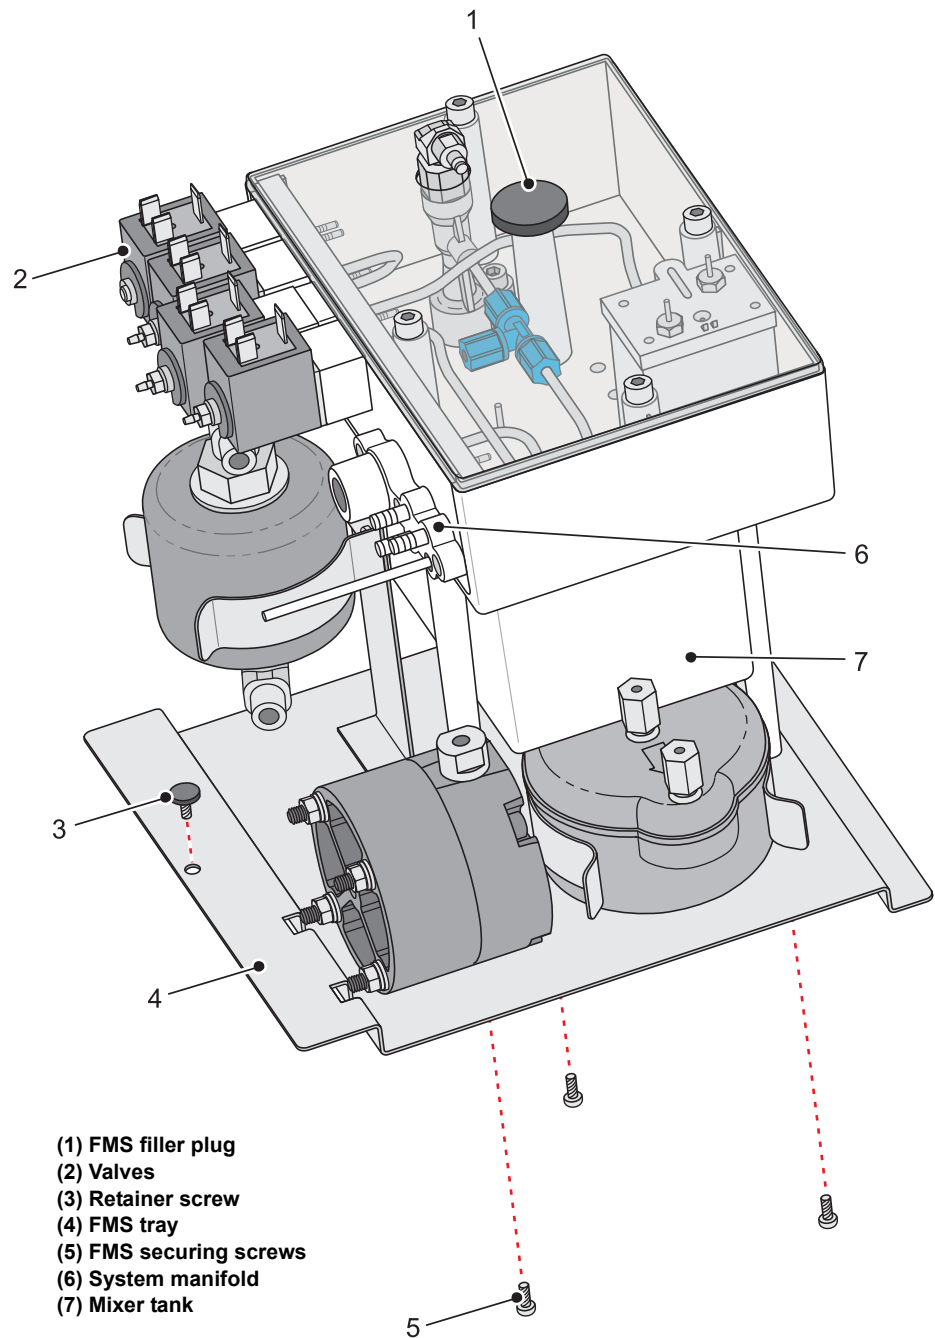

Figure 8-11. Fluid Management System Removal
- 2 Remove the retainer screw (Item 3 in Figure 8-11. on page 8-17) and lift the FMS tray (4) forwards and out of the printer.
- 3 Remove the filler plug (1) and drain the ink system using a syringe and a length of plastic tubing.
- 6 Remove the electrical connectors from the valves (2) V3, V6, V7 and V8.
- 7 Remove and retain the three screws securing the system manifold (6). Pull the manifold clear of the ink system (take care to retain the manifold O-rings).